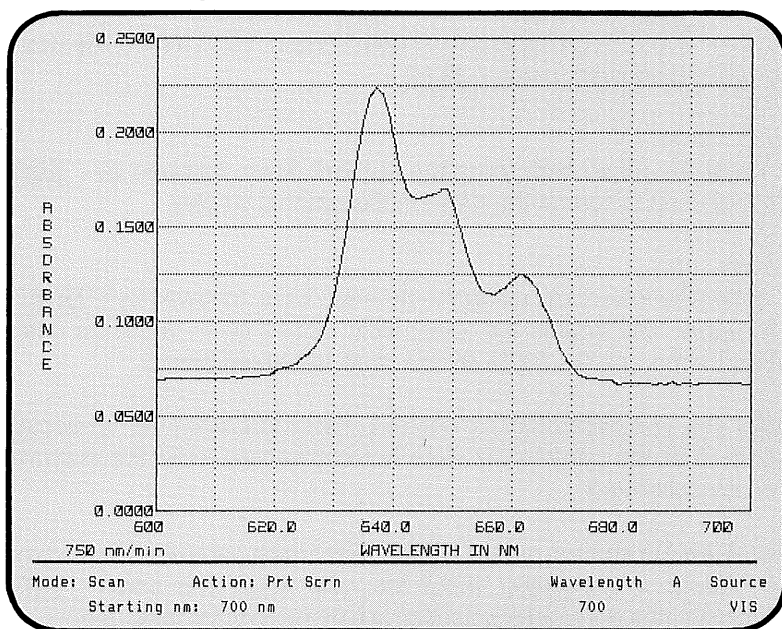

Figure 5-3. Graphic Display of Wavelength Scanning Data
To plot the data with a grid as shown in Figure 5-3, press the
14. To make a copy of the display press **func** **PrtSc**. Sample data are shown in Figure 5-3.
4. To make a copy of the display press **func** **PrtSc**. Sample data are shown in Figure 5.3.